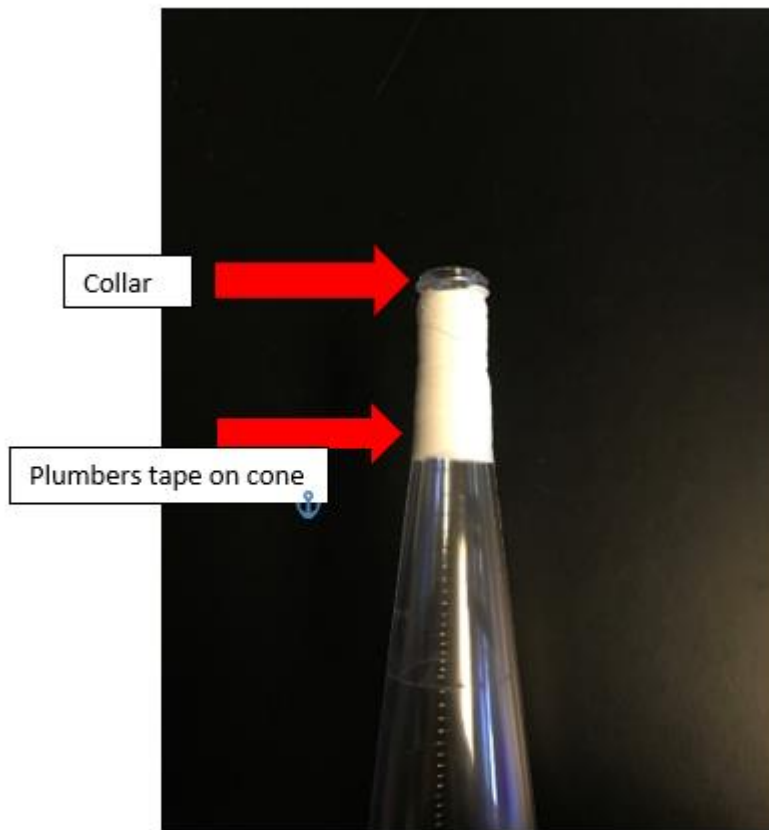

Figure 2: Plumber's tape added to base of cone
- 4) Attach the tubing by sliding over the outside of the venoset. Push the tubing as far as it will go; with some pressure it should slide all the way up (Figure 2).
- 7) Wrap the collar of the cone with a liberal amount of plumber's tape and check for leaks using water (Figure 2).